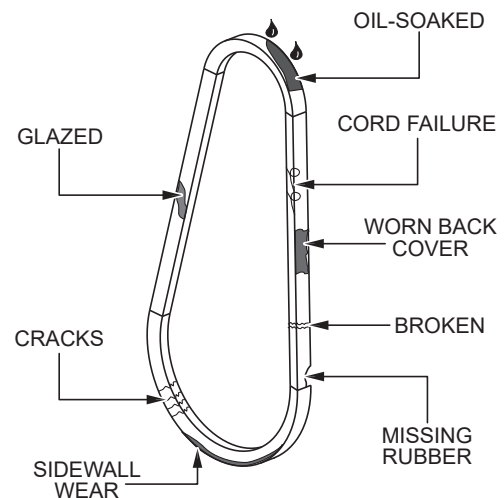

Figure 40. V-Belt Inspection
- Inspect the V-belt (Figure 40) to determine if it is frayed, peeling, full of tiny cracks, has pieces of rubber missing, or is otherwise damaged.
- Inspect the V-belt (Figure 40) to determine if it is oil-soaked or *glazed* (a hard, shiny appearance on the sides of the belt). Either of these conditions can cause overheating of the belt, which can weaken the belt and increase the possibility of it breaking.